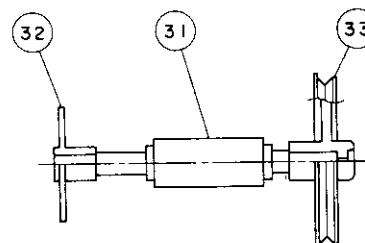

Figure 16
As described in Fig. 16 pressing insert the Shifter (32) and pulley to the long and short bars of Worm Gear (31) respectively. When the Encorder (32) is assembled, make sure that the left end of the bar is on the same level as the face of the shorter boss of shifter. When the Pulley (33) is assembled, press the pulley as long as it goes.